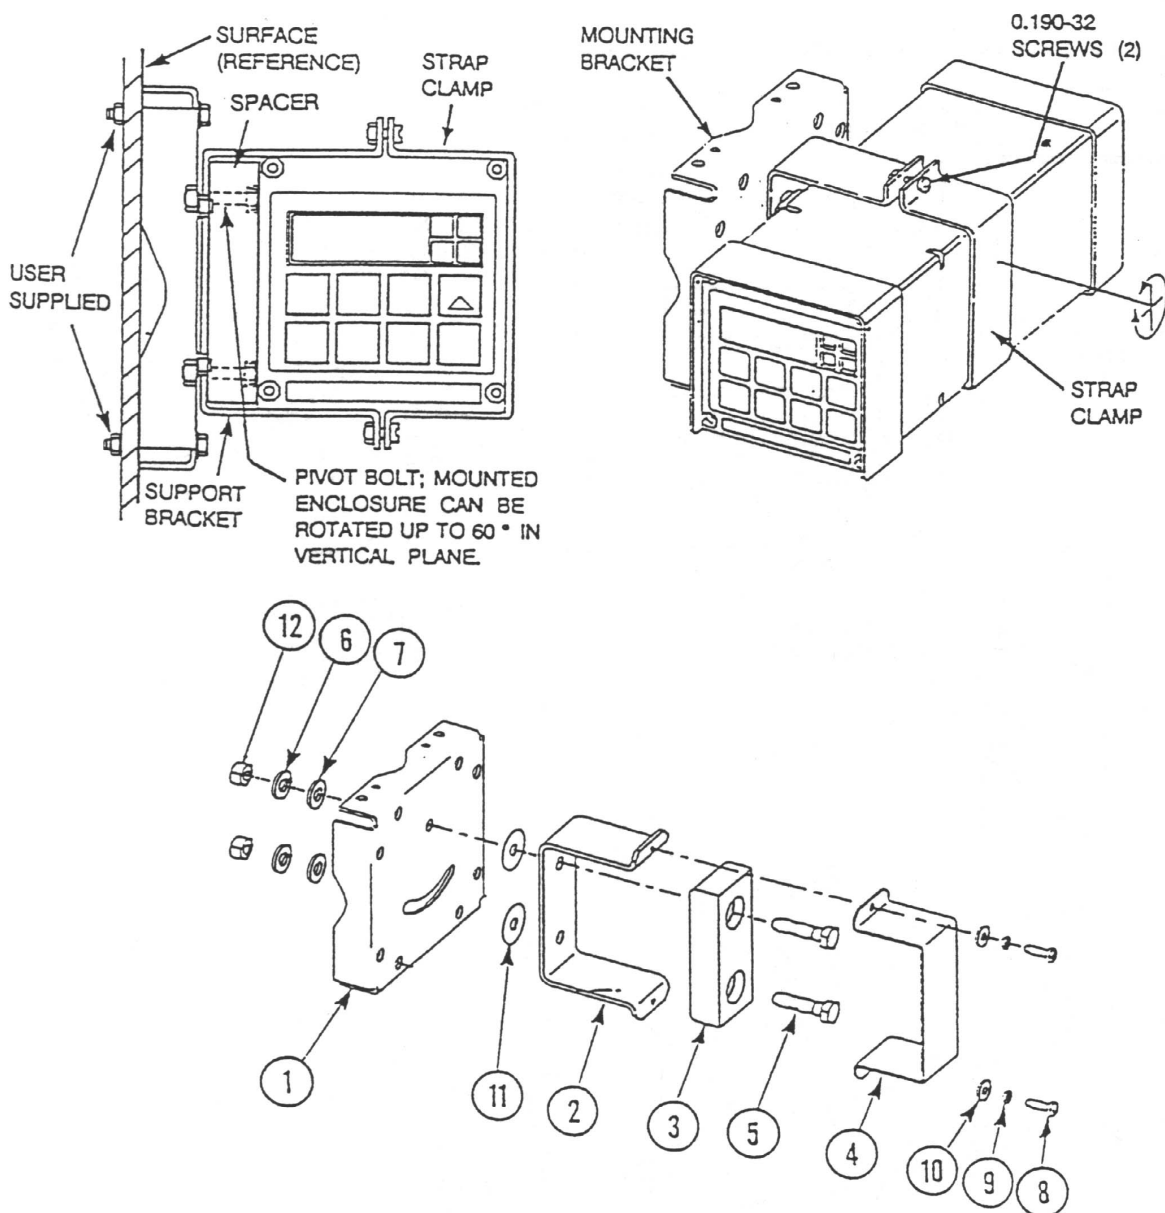

Figure 6. Metal Enclosure - Fixed Mount
2. Referring to Figure 6, use mounting bracket as template for drilling four holes into mounting surface. Notice that holes in mounting bracket are 8.74 mm (0.344 in) in diameter. Do not attach mounting bracket to surface at this time.
- a. Place hex bolts (5) through spacer (3) into support bracket (2).
- b. Slide nylon washers (11) over bolts (5).
- c. Slide bolts through universal mounting bracket (1) and fasten assembly together with hardware designated 7, 6, and 12.
- d. Attach universal mounting bracket (1) to wall.
4. Slide Analyzer into support bracket and slide strap clamp (4) onto Analyzer. Using two sets of screws, nuts, and washers, attach strap clamp to support bracket to secure Analyzer.